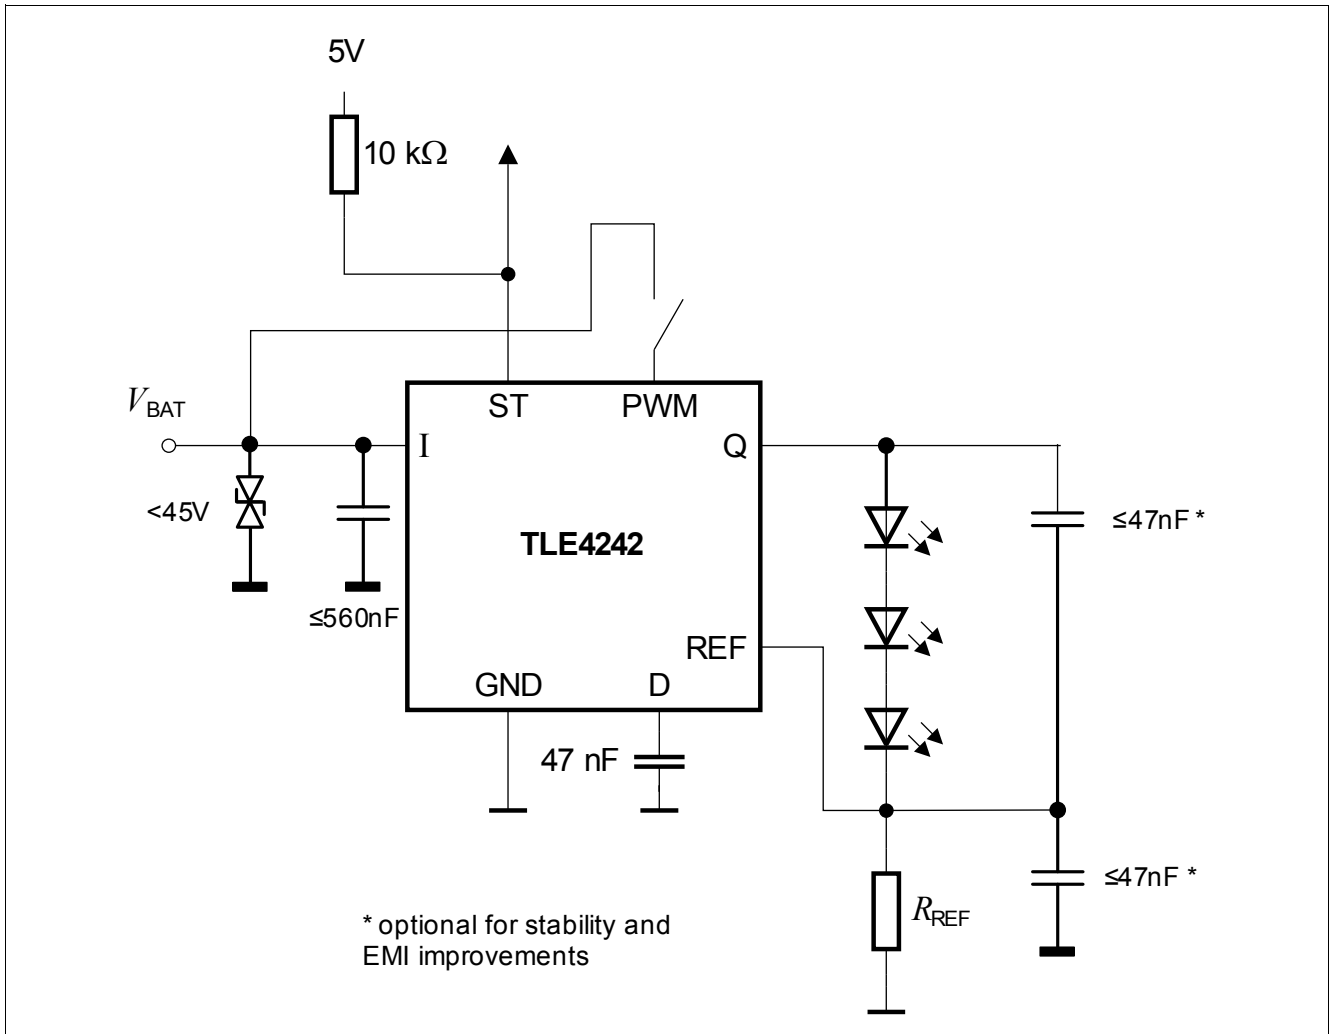

Figure 9 Application Diagram
The application example in Figure 9 shows a typical application with the TLE4242EJ LED driver. The three LEDs are driven with an adequate supply current adjusted by the resistor  $R_{REF}$ . Thus brightness variations due to forward voltage spread of the LEDs are prevented. The luminosity spread arising from the LED production process can be compensated via software by an appropriate duty cycle applied to the PWM pin. Therefore, selection of the LEDs to forward voltage as well as to luminosity classes can be spared. The minimum supply voltage for the application is the sum of the LED forward voltages, the TLE4242EJ drop voltage Minimum drop voltage  \$V\_{dr} = V\_I - V\_Q\$  and the max. voltage drop at the shunt resistor  $R_{REF}$  of  $V_{REF(\text{max})}$  according to Reference voltage.
2)  $V_Q - V_{REF}$  equals the forward voltage sum of the connected LEDs, see Figure 9